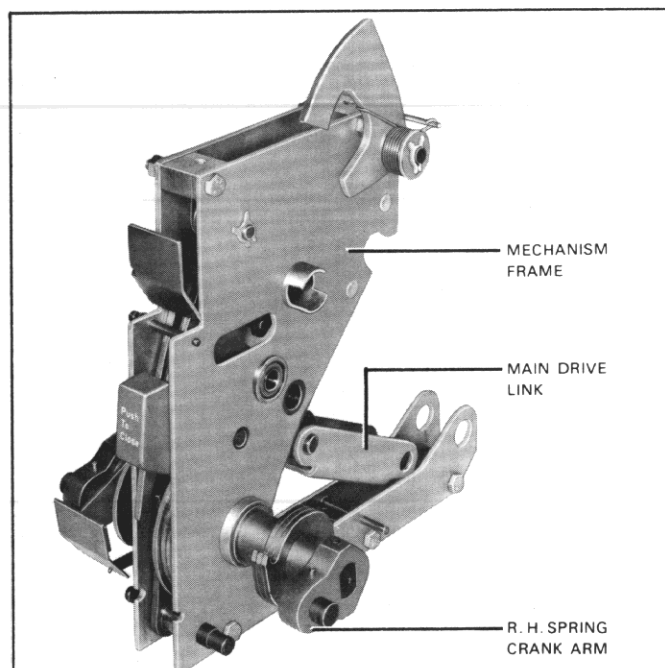

Fig. 19 Front View of Mechanism (Manual Spring Charge)
(1) Figures 19 thru 22 illustrate mechanism for all DS/DSL breakers except DS-632 and DS-840. DS-632 and DS-840 mechanisms are similar.
(2) Two opening springs are required for DS-840.